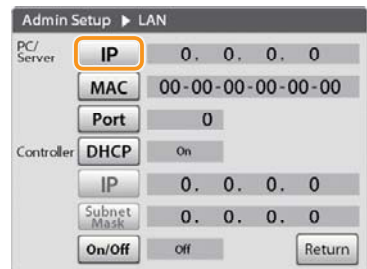

Figure 3-90
2. Tap [IP] of [PC/Server]. (Figure 3-90)